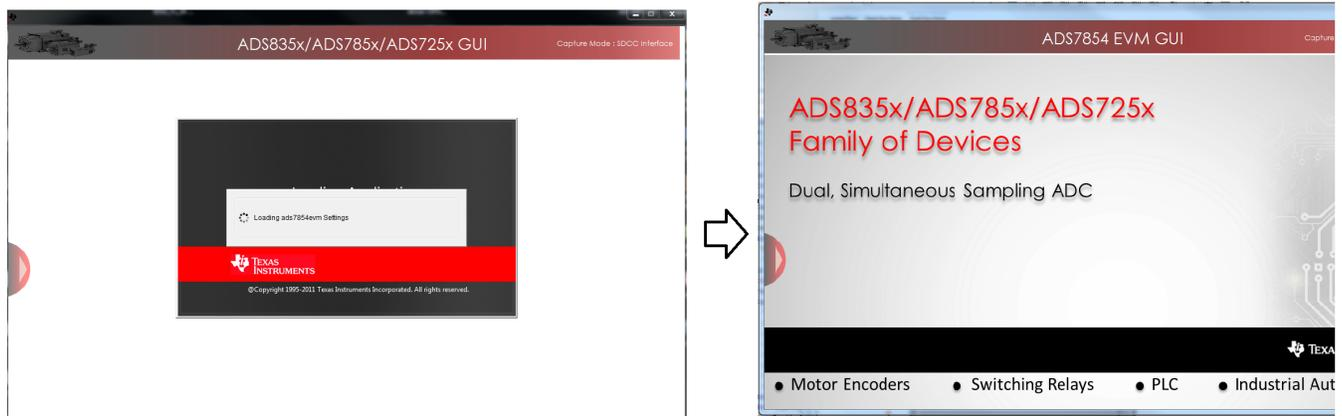

Figure 14. GUI Display Prompt
- Step 3. Verify that the software detects the ADSxx54EVM. The GUI identifies the EVM hardware that is connected to the controller board and displays either *Loading the ADS8354evm Settings* or *Loading the ADS7854evm Settings*. After the settings are loaded, *ADS8354EVM GUI* or *ADS7854 EVM GUI* displays at the top of the GUI screen, as shown in Figure 14.